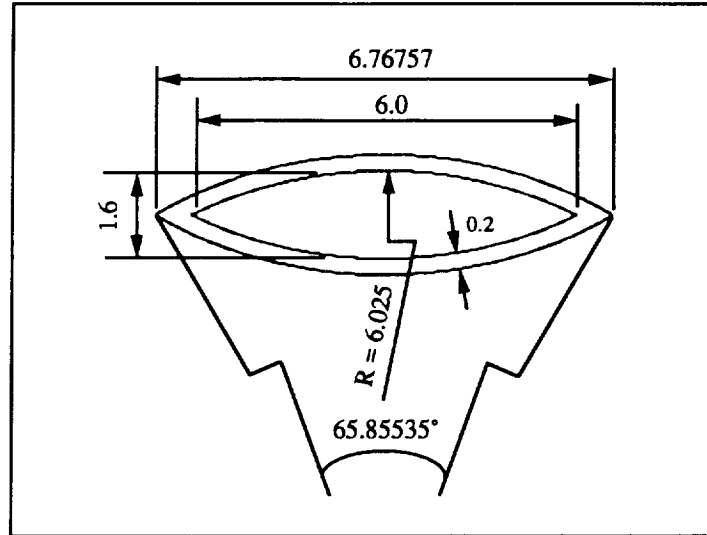

Figure 3: The Geometry of Ogival Coated Cylinder
**Example 1: Ogival coated cylinder in rectangular domain.** This problem involves the use of most functions and features provided by AUTOMESH-2D. The geometry of the conducting body is shown in Figure 3, and is coated